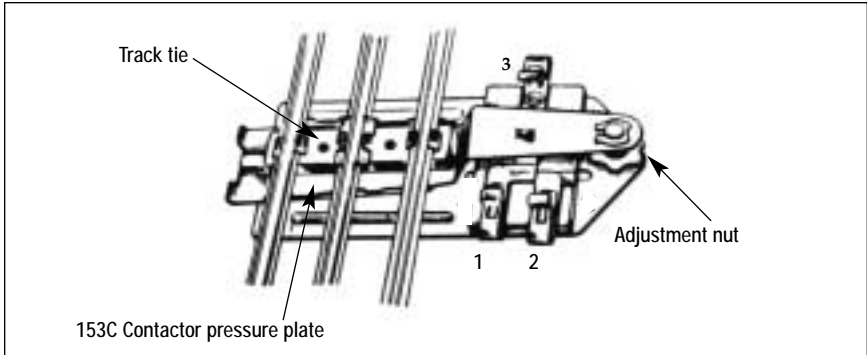

Figure 1. 153C Contactor
The 153C Contactor is activated by the weight of a passing train. Place the Contactor under the track, as shown in Figure 1.
2. Turn the adjustment nut either up or down until the signal is activated. Refer to Figure 1 on page 3 for the location of the adjustment nut.